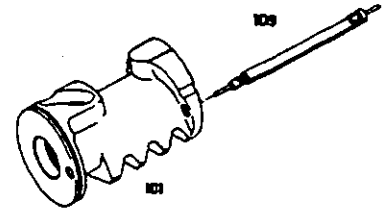

Fig. 13
The tappet of the valve insert (109) (*see Fig. 13*) installed in piston (101) must not be damaged.
- 7.3 Check the valve insert (109) installed in piston (101) (*see Fig.13*) for radial or axial play, mechanical damage and any internal leaks.
Release caulking and screw valve insert (109) out of piston (101) with tool [2] (Fig. 13).